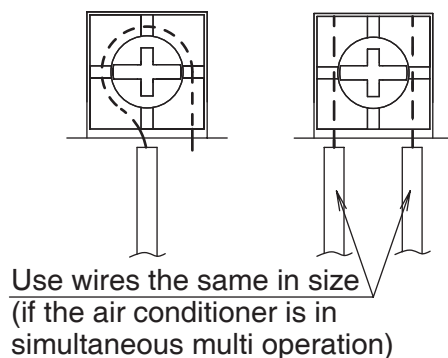

Fig. 21
- Connect the terminal as shown in **Fig. 21**.